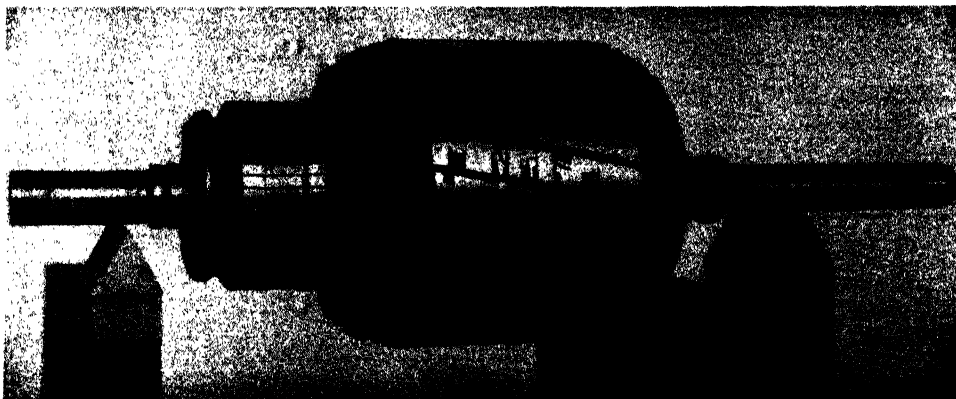

FIG. 81. BALANCE OF AN ARMATURE.
10. Fig. 81 shows a test which must be made on a motor armature. What kind of a test is this? .....